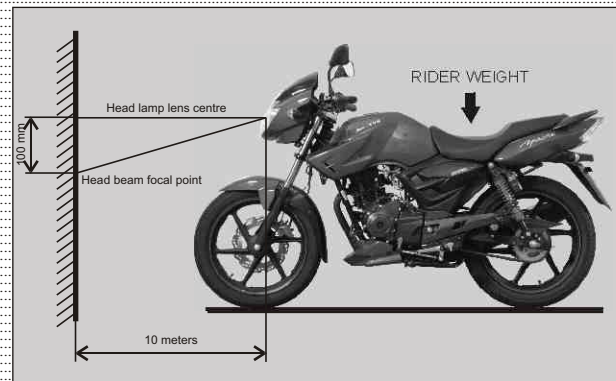

Fig. 2.18
- Check head lamp beam position and adjust if required. (Fig. 2.18) (Refer page no 2-21 for head lamp beam adjustment procedure.)